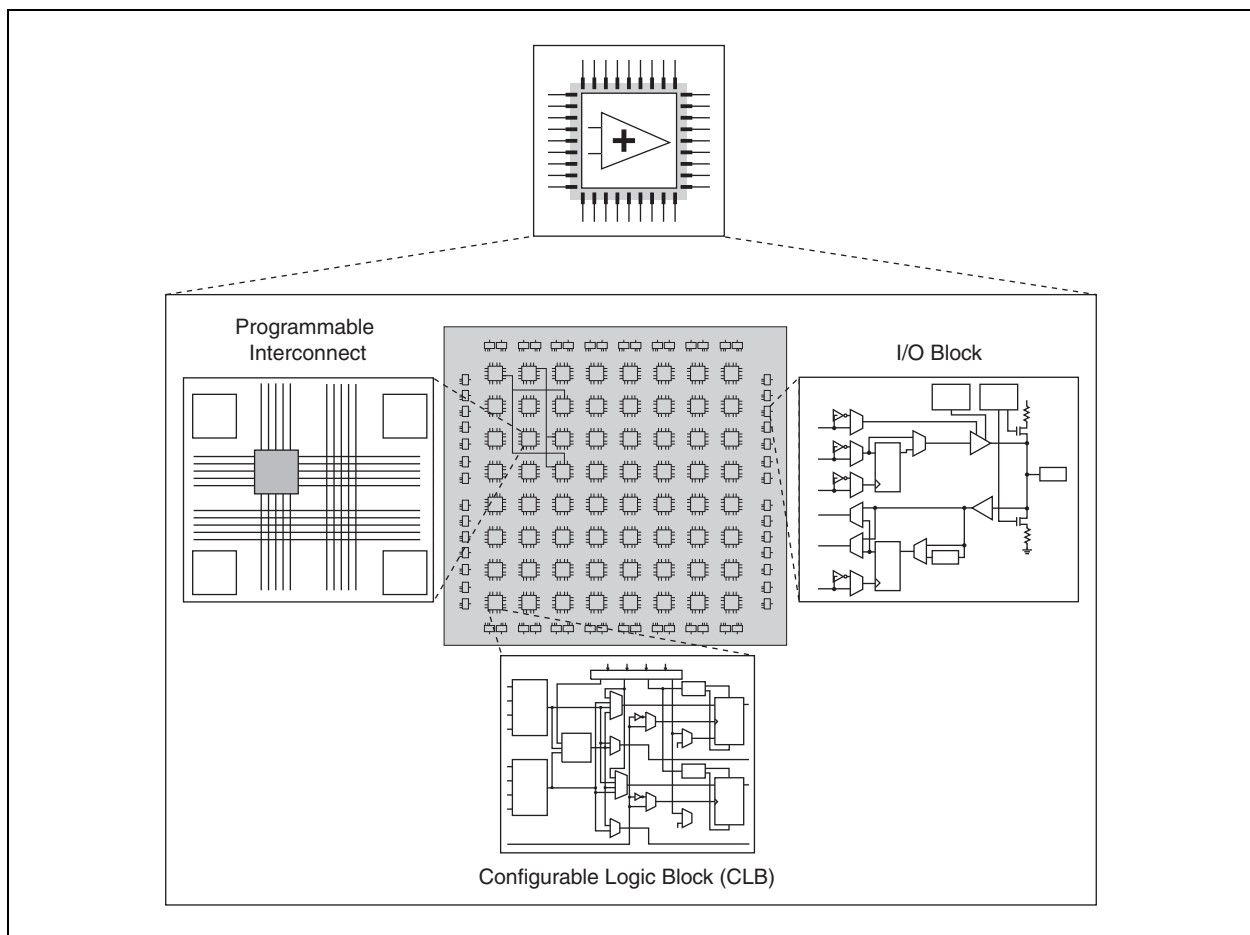

Figure 3-1. FPGA Chip
A single FPGA can replace thousands of discrete components by incorporating millions of logic gates into a single integrated circuit (IC) chip. Figure 3-1 shows the FPGA as a reconfigurable digital architecture with a matrix of configurable logic blocks (CLBs) with horizontal and vertical routing channels surrounded by a periphery of I/O blocks.